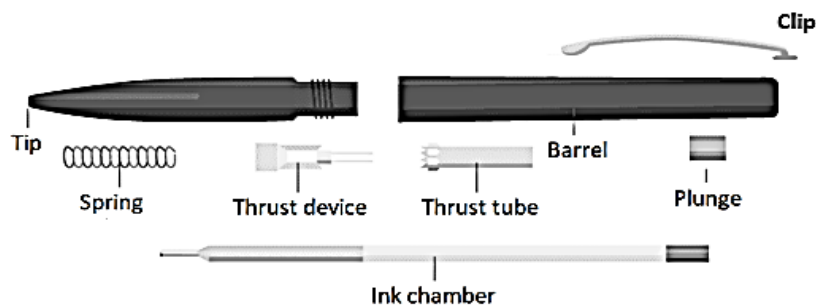

Figure 6 [a]
6. [a] In component design, various methods is applied to ensure component is produced efficiently at lower cost. Based on the components in internal assembly of the pen as shown in Figure 6 [a], suggest TWO (2) improvements that can be made to minimize production cost based on Design for Assembly (DFA).